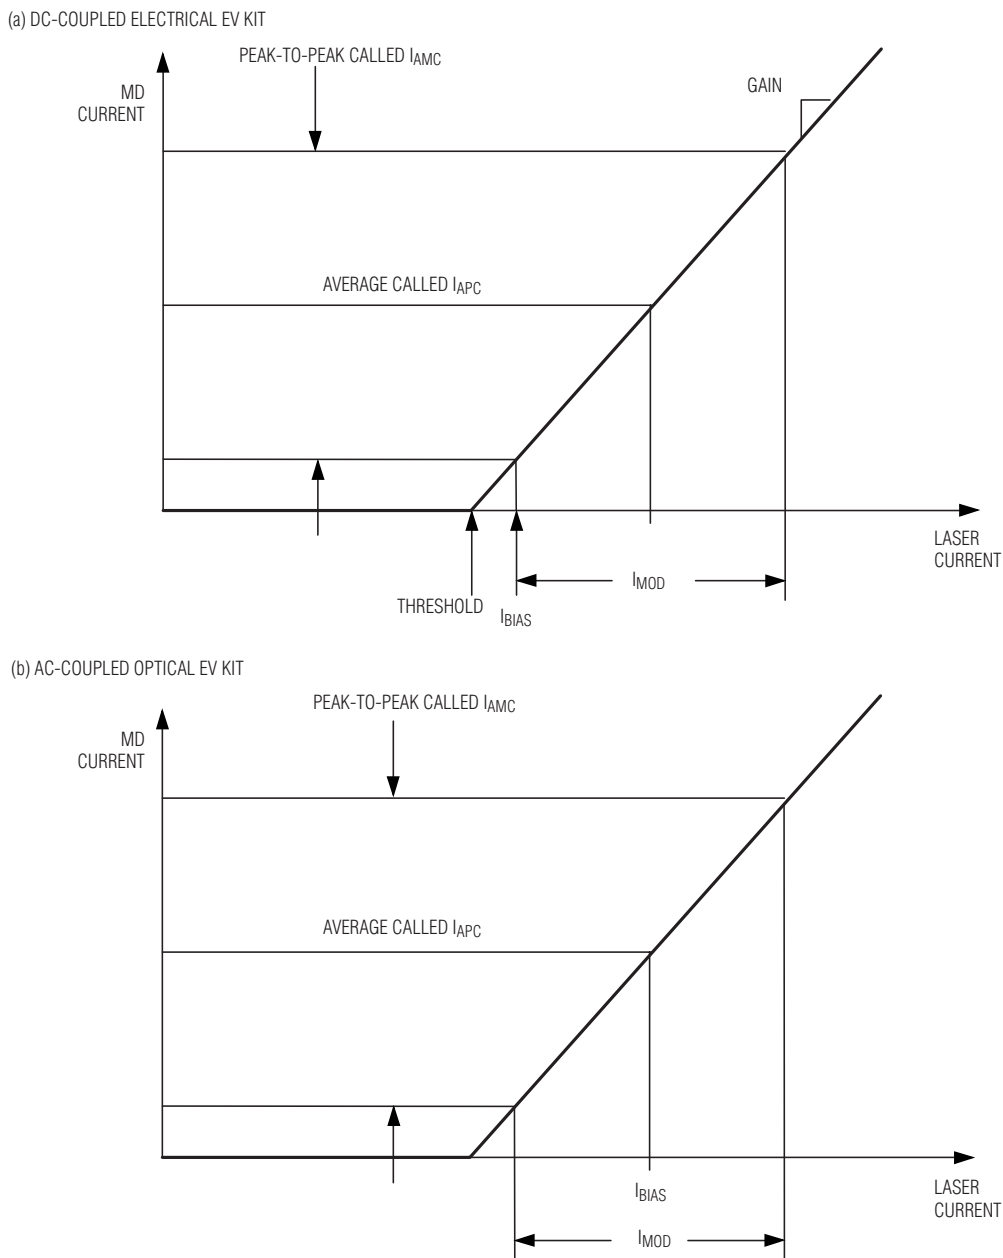

Figure 1. Relation Between Chip-Output Currents and Monitor-Diode Currents
- 3) Program the gain of the synthetic laser using the jumper settings shown in Table 1. Remember that the synthetic laser is not a real laser. It mimics only some characteristics of a real laser. In particular, its input behaves like a linear resistor and not like a diode. As input current is increased, synthetic laser voltage continues to increase rather than saturating (at something in excess of 1V) like a real laser (Figure 1).
The resulting bias and modulation currents as seen in Figure 1:
The corresponding monitor currents: $I_{BIASMON} \approx 677\mu\text{A}$ and $I_{MODMON} \approx 781\mu\text{A}$. See Figure 1 to see how the set-point currents and actual bias and modulation currents are related.